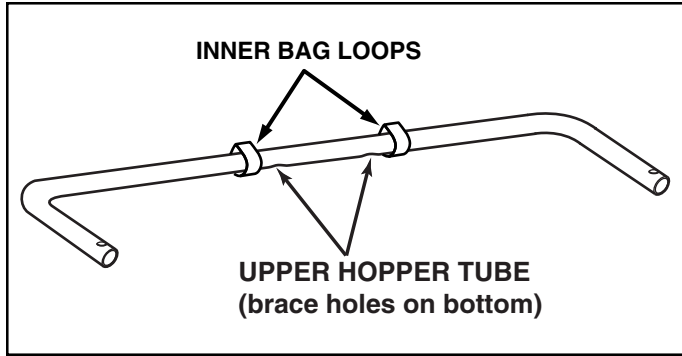

FIGURE 8
1. Turn the upper hopper tube so that the middle brace holes face down as shown in figure 8. Slide the tube through the two loops sewn to the top rear seam inside the hopper bag.